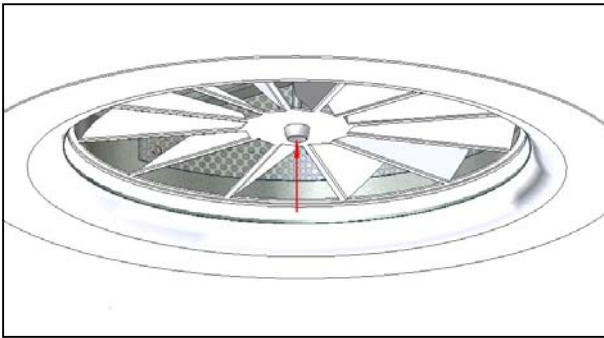

Figure 4: Fit plastic cap over screw
4. Clip the plastic cap back over the head of the fixing screw (figure 4).
7. Clip the plastic cap back over the head of the fixing screw (figure 4).